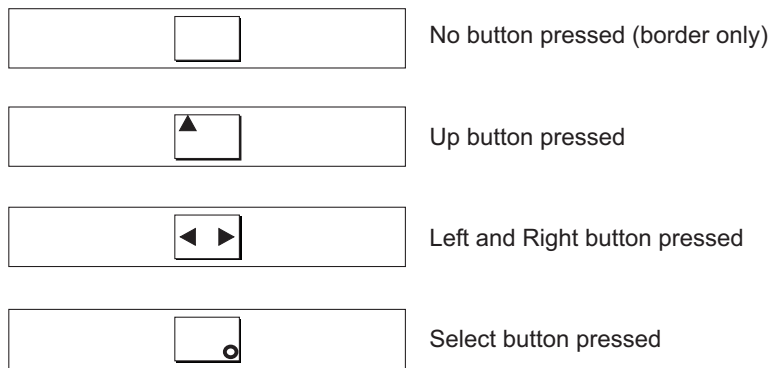

Figure 122. Front panel display when push buttons are pressed
3. Press the up, down, left, and right buttons to verify that they are working. Figure 122 shows four examples of what the front panel should display when you press the buttons. When you have finished testing the buttons, press and hold the select button for five seconds in order to exit the test.